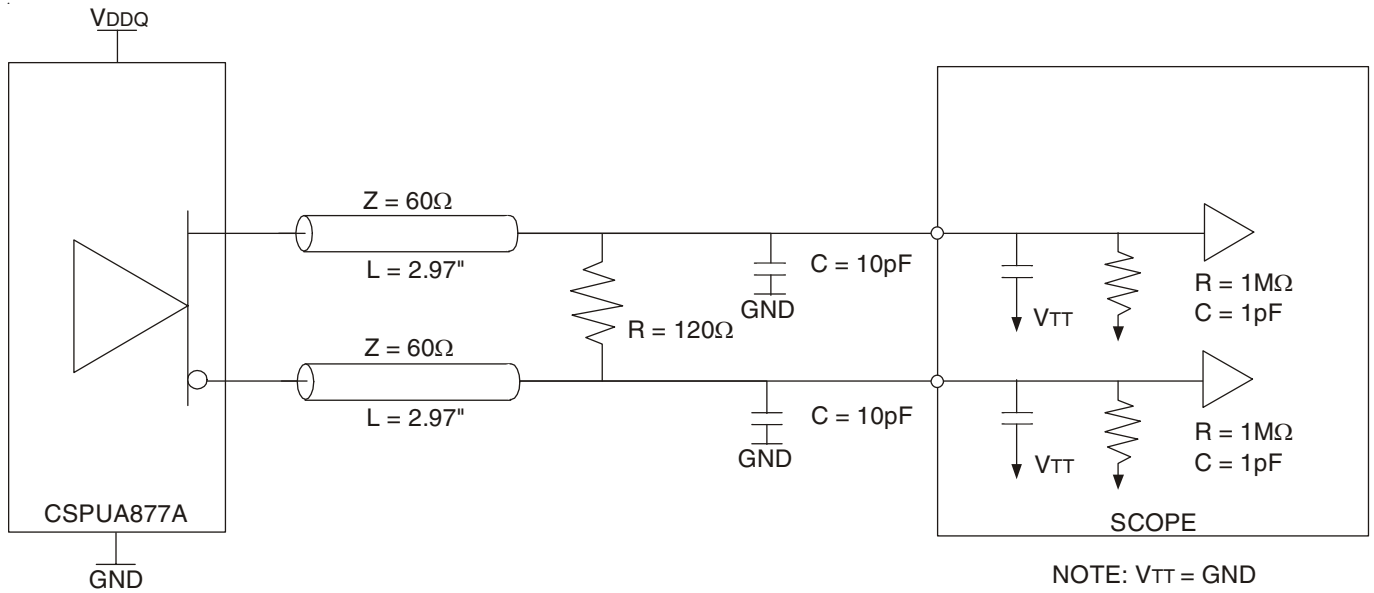

Figure 1: Output Load Test Circuit 1
- There are two different terminations that are used with the above AC tests. The output load shown in figure 1 is used to measure the input and output differential pair cross-voltage only. The output load shown in figure 2 is used to measure all other tests, including input and output slew rates. For consistency, use 50Ω equal length cables with SMA connectors on the test board.
- In the frequency range of 271 - 410MHz, the min and max values for tJIT(PER) and t( $\emptyset$ )DYN, and the max value for tsk(O), must not exceed the corresponding min and max values of the 160 - 270MHz range. Also, the sum of the specified values for | tJIT(PER) |, | t( $\emptyset$ )DYN |, and tsk(O) must meet the requirement for  $\Sigma t$ (SU), and the sum of the specified values for | t( $\emptyset$ )DYN | and tsk(O) must meet the requirement for  $\Sigma t$ (H).